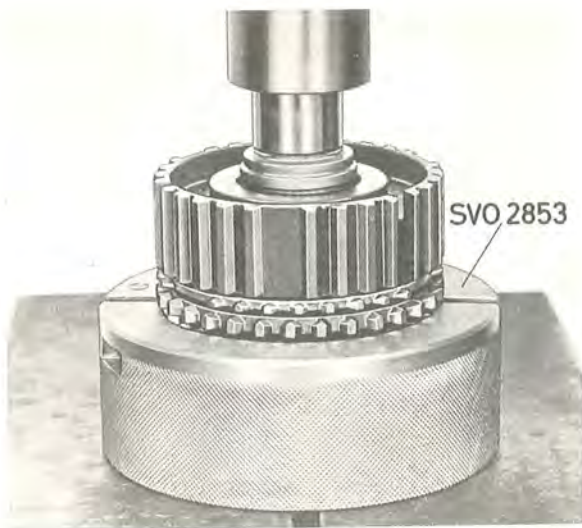

Fig. 4-25. Dismantling the mainshaft, II
4. Revert the shaft and place it in the press as shown in Fig. 4-25. Press off 3rd speed gear wheel and 4th speed synchronizing hub.